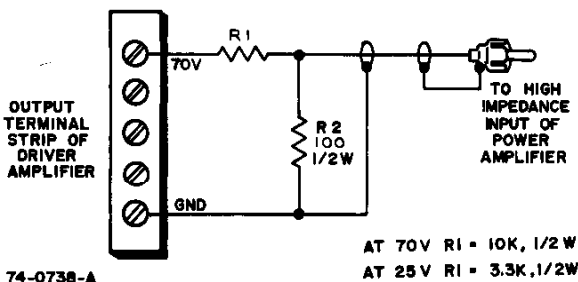

Figure 2 — Input From Another Amplifier
**INPUT FROM ANOTHER AMPLIFIER.** The HTA-125A/HTA-250A amplifiers may be driven from an amplifier that provides a 25-volt or 70-volt constant voltage output. Connect the output of the driver amplifier to one of the HI-Z INPUT jacks via a resistor network (see Figure 2). The resistors shown are in addition to the normal loudspeaker load on the output of the driver amplifier.
**INPUT LEVEL CONTROL.** The input level control (see Figures 2,3), located on the rear panel, adjusts the input signal applied to the amplifier. Turn the adjustable screw clockwise to increase the level.